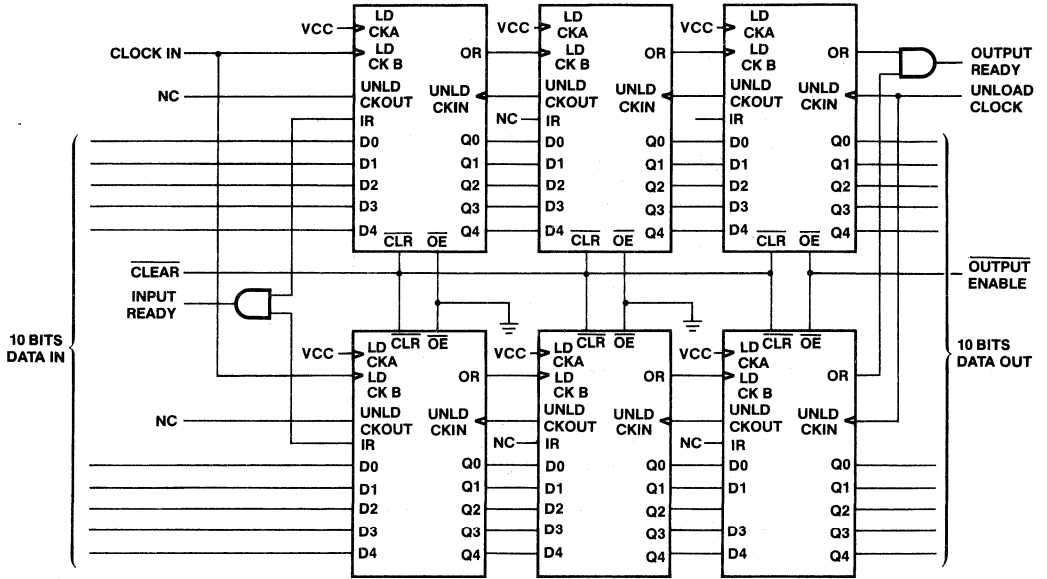

Figure 9. 48x10 FIFO with 74S225/A
After power up the CLEAR is pulsed low (Figure 5) to prepare the FIFO to accept data in the first location. Clear must be applied prior to use to ensure proper operation. When Input Ready (IR) is HIGH, the first location is ready to accept data from the  $D_x$  inputs. Data then present at the data inputs is entered into the first location when both Load Clocks (CLK A and CLK B) are brought HIGH. The CLK A HIGH and CLK B HIGH signal causes the IR and UNCK OUT to pulse LOW. Once data is entered into the first cell, the transfer of data from any full cell to the adjacent (downstream) empty cell is automatic, activated by an on-chip control. Thus data will stack up at the end of the device while empty locations will "bubble" to the front.  $t_{RIP}$  defines the time required for the first data to travel from input to the output of a previously empty device. When the sixteenth word is clocked into the device, the memory is full (sixteen words) and IR remains low. The Unload Clock Output is provided chiefly for use in cascading devices to extend FIFO depth (Figure 9). When Input Ready is Low, do not attempt to shift-in new data.